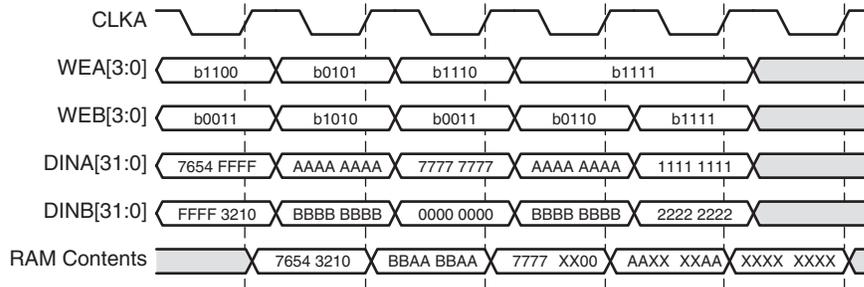

Figure 15: Write-write Collision Example
- Using Byte-Writes.** When using byte-writes, memory contents are not corrupted when separate bytes are written in the same data word. RAM contents are corrupted only when both ports attempt to write the same byte. Figure 15 illustrates this case. Assume  $ADDRA = ADDR_B = 0$ .